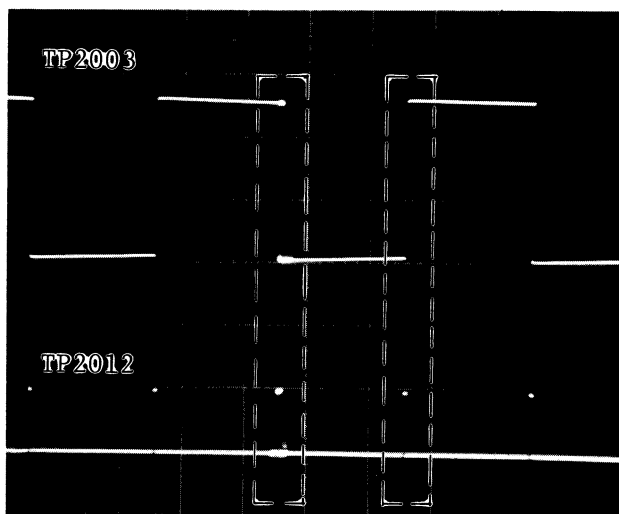

Fig. E12 (Up) 2V/10msec.div.
4. Adjust V-B (R2058) and V-A (R2055) both on the same section so that the waveforms are as shown in Fig. E12.